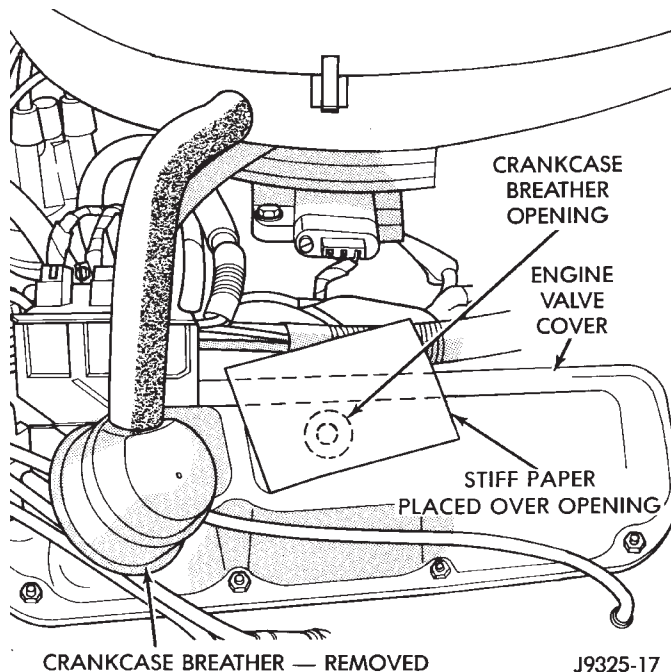

Fig. 12 Check Vacuum at Crankcase Breather Opening—Typical
(2) Install the PCV valve. Remove the crankcase breather/filter. Hold a piece of stiff paper, such as a parts tag, loosely over the opening of crankcase breather/filter at the cylinder head (valve) cover (Fig. 12).
(3) The paper should be drawn against the opening in the cylinder head (valve) cover with noticeable force. This will be after allowing approximately one minute for crankcase pressure to reduce.